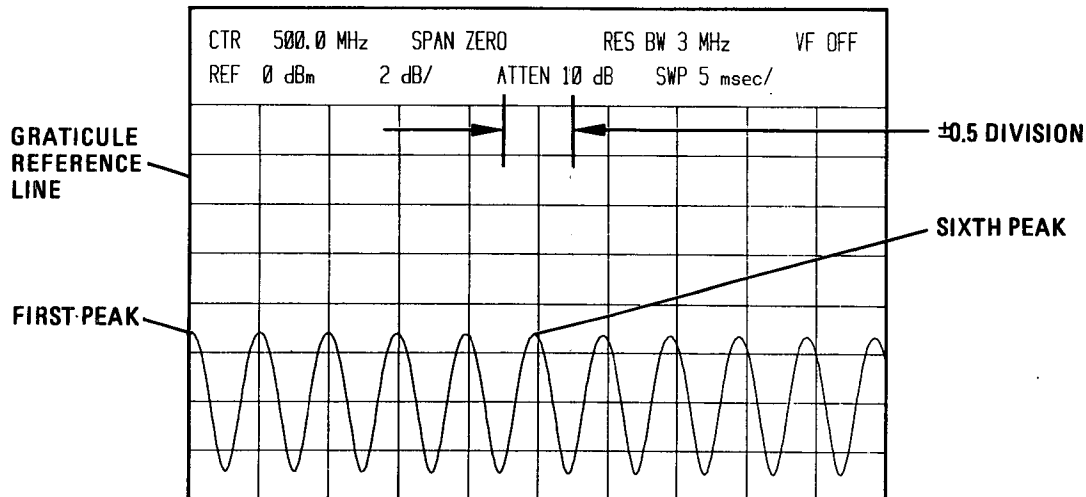

Figure 4-23. Sweep Time Accuracy, $5 \text{mSEC}/\text{DIV}$
10. Use Table 4-21 to check sweep time accuracy for sweep times of $5 \mu\text{SEC}$ through .1 SEC. For these sweep times, 10 sweeps will be displayed. Adjust TRIGGER LEVEL of spectrum analyzer to place a peak of sine wave on graticule reference line. Sixth peak from reference should be within ± 0.5 divisions of center graticule line. (See Figure 4-23 for an example of this display.)